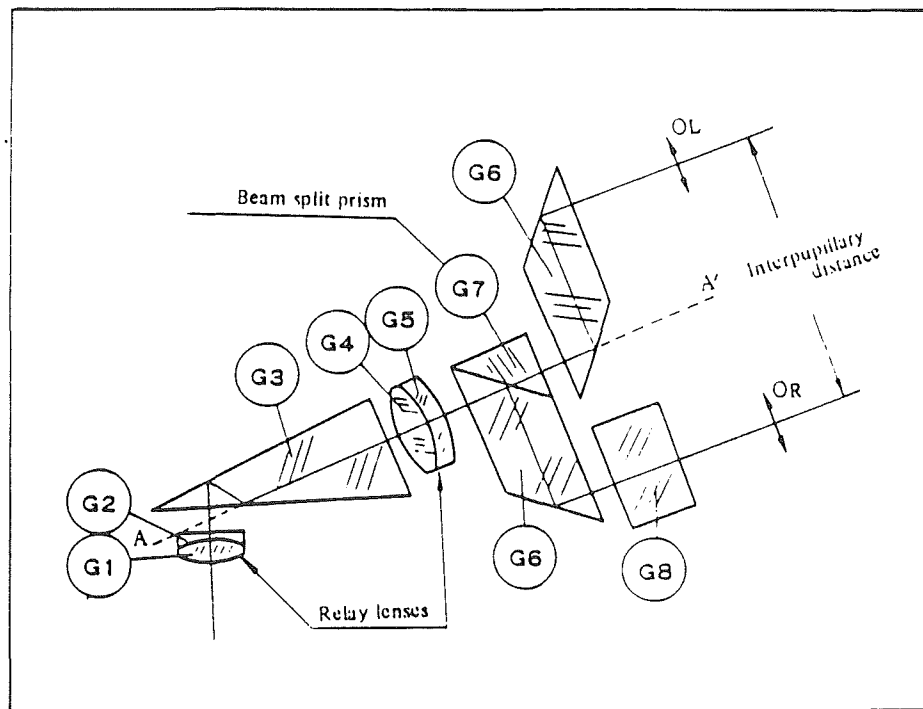

Fig. 12
- As shown in Fig. 12 images are produced at OL and OR by the parallel ray beams between (G1), (G2). The right and left side prisms ((G6) and (G7)) are revolved round the axis AA'.